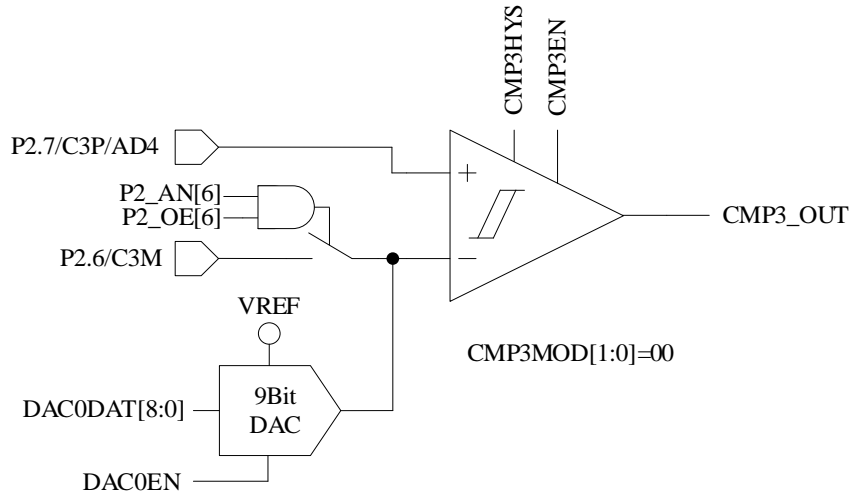

Figure 29-2 Single-comparator Input Mode
- When CMP\_CR1[CMP3MOD] = 00, CMP3 works in Single-comparator Input Mode. The connection of input and output pins are shown in Figure 29-2.